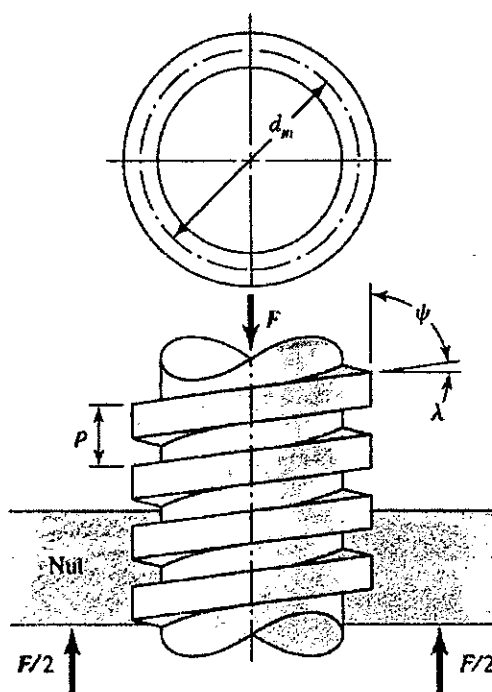

Fig. 5 A power screw
5. A portion of a square-threaded power screw with single thread having a mean diameter  $d_m$ , a pitch  $p$ , and a lead angle  $\lambda$  is loaded by an axial compressive force  $F$ , as shown in Fig. 5. Please (a) find an expression for the torque required to raise this load, (b) find an expression for the torque required to lower the load, and (c) find the condition for self-locking. (5%) (5%) (5%)